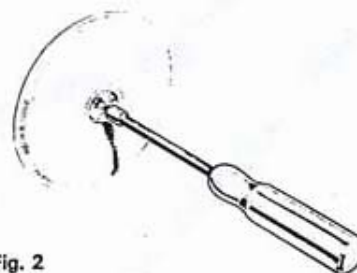

Fig. 2
- Unscrew the grease nipple using the 6mm nut driver (fig. 2).